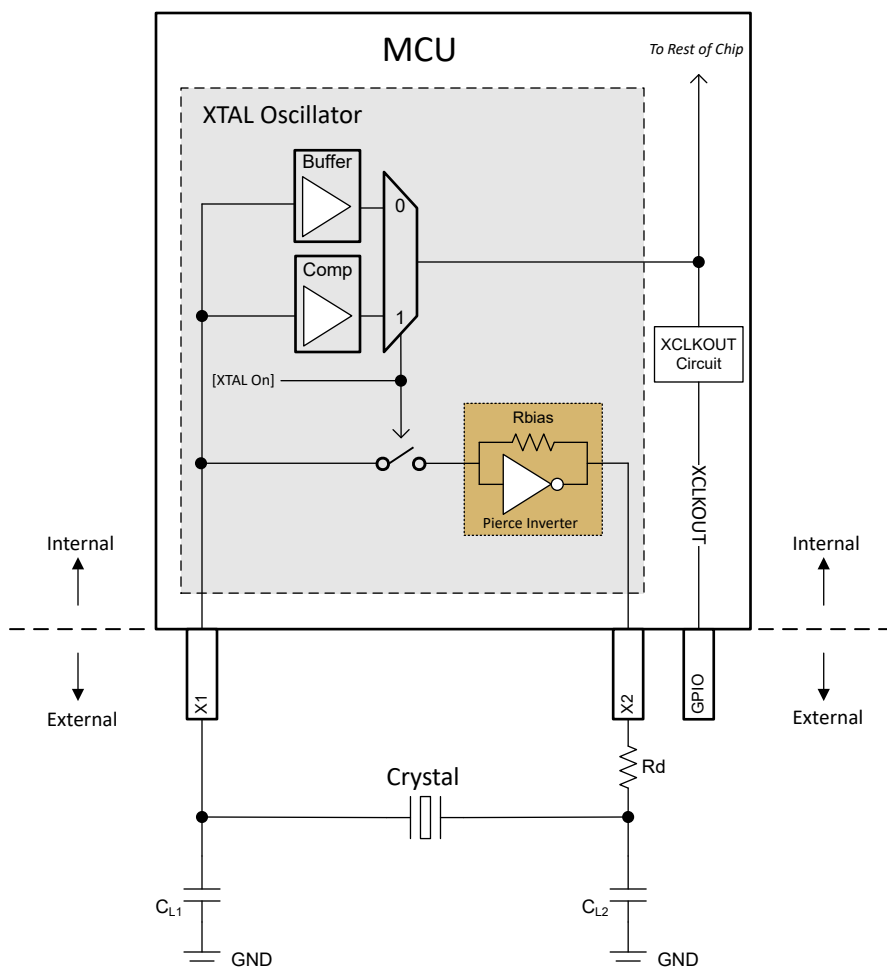

**Figure 7-20. Electrical Oscillator Block Diagram**
The electrical oscillator in this device is a Pierce oscillator. It is a positive feedback inverter circuit that requires a tuning circuit in order to oscillate. When this oscillator is paired with a compatible crystal, a tank circuit is formed. This tank circuit oscillates at the fundamental frequency of the crystal. On this device, the oscillator is designed to operate in parallel resonance mode due to the shunt capacitor (C0) and required load capacitors (CL). Figure 7-20 illustrates the components of the electrical oscillator and the tank circuit.
From Figure 7-20, CL1 and CL2 are in series; so, to find the equivalent total capacitance seen by the crystal, the capacitance series formula has to be applied which simply evaluates to  $[CL1]/2$  if  $CL1 = CL2$ .